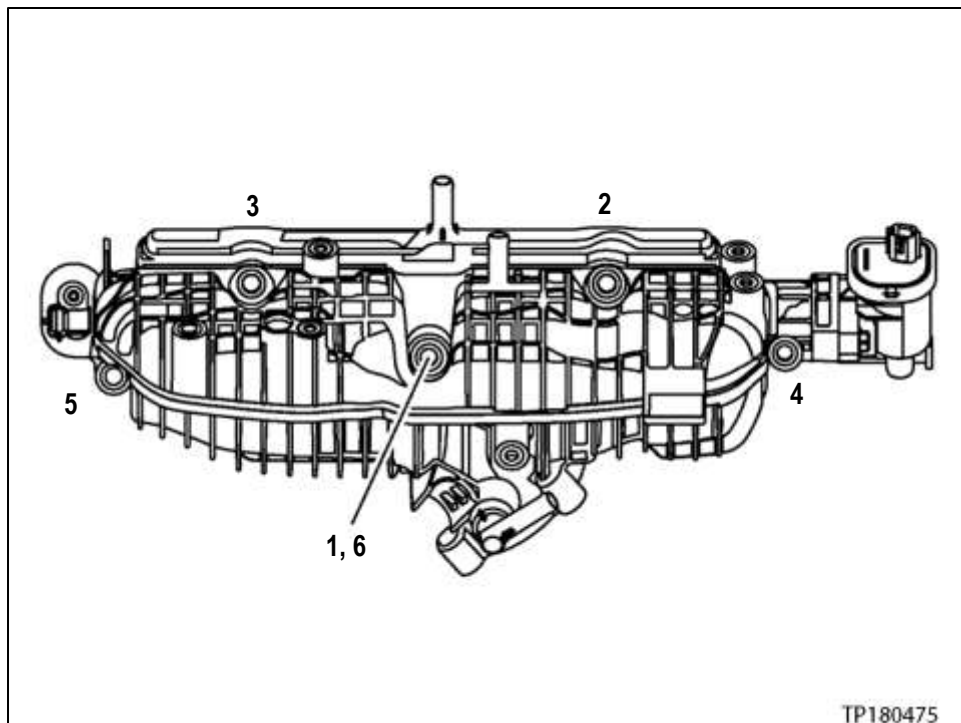

Figure 67
18. Install, and then tighten the intake manifold bolts in the sequence shown in Figure 67: